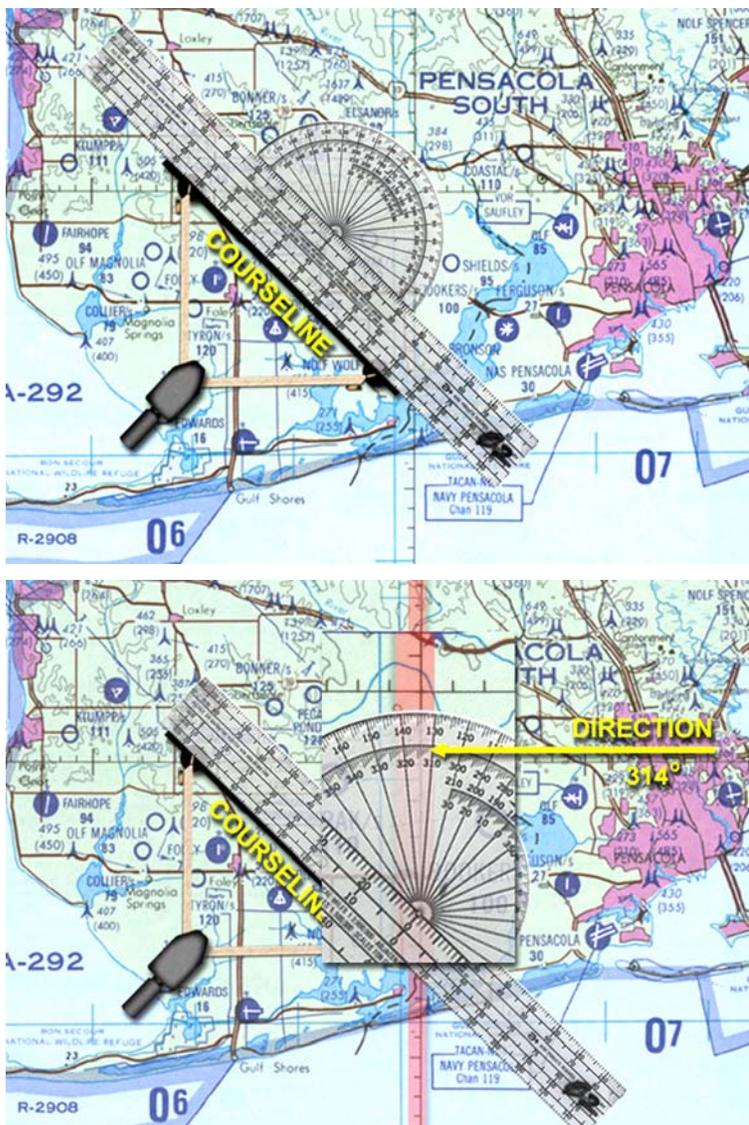

Figure 4.2-18 Measuring East/West Direction
3. Spread the dividers and place the tips on the courseline. If they will reach, place the tips of the dividers on the two points (Figure 4.2-18).
4. Place the straightedge of the plotter against the two points of the dividers (Figure 4.2-18).
5. While keeping the straightedge against the dividers' points, slide the plotter along the course line until the plotter's grommet is over a meridian (Figure 4.2-18).
6. In conclusion, go to the outer two scales and note where the meridian (the one under the grommet) intersects the scales. There will be a choice of two answers, choose the one that is nearest the estimate. Be sure to count the marks carefully and remember the scale increases in a counterclockwise direction (Figure 4.2-18).
3. Place the straightedge against the dividers and slide it until the grommet is over a meridian or parallel. (Figure 4.2-18)